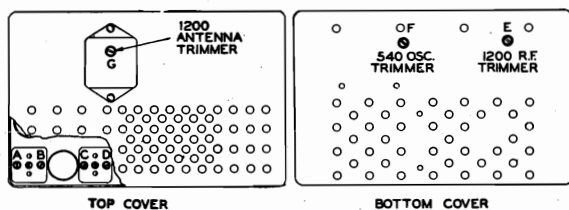

Fig. 4—Trimmer Positions.
3. Adjust trimmer F, Fig. 4, for maximum response.
6. Adjust E, Fig. 4, for maximum response.
5. Back off trimmer F, Fig. 4, to $\frac{1}{3}$ of output reading.